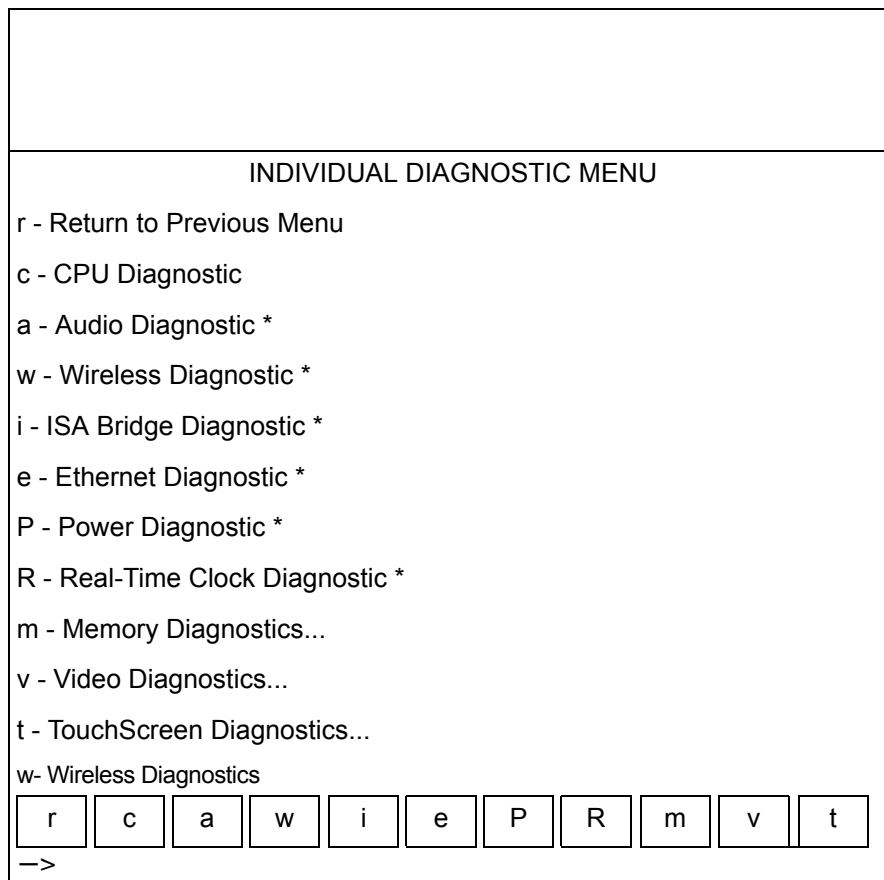

Figure 5-6: Individual Diagnostic menu
**i** — Displays the **Individual Diagnostic** menu (*Figure 5-6*).